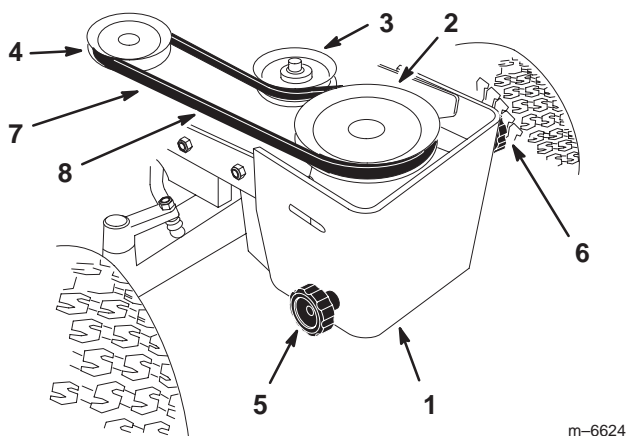

Figure 34
1. Turn the left knob on the front pulley box to loosen the PTO drive belt (Fig. 34).
2. Remove the PTO belt from the clutch pulley (Fig. 34).
3. Remove the PTO belt from the upper pulley and upper idler pulley in the pulley box (Fig. 34).
4. Install the PTO new belt onto the clutch pulley (Fig. 34).
5. Install the PTO belt onto the upper pulley and upper idler pulley in the pulley box (Fig. 34).
6. Turn the left knob on the front pulley box to tighten the PTO drive belt (Fig. 34). There needs to be a 1/2 inch (13 mm) deflection in the belt.